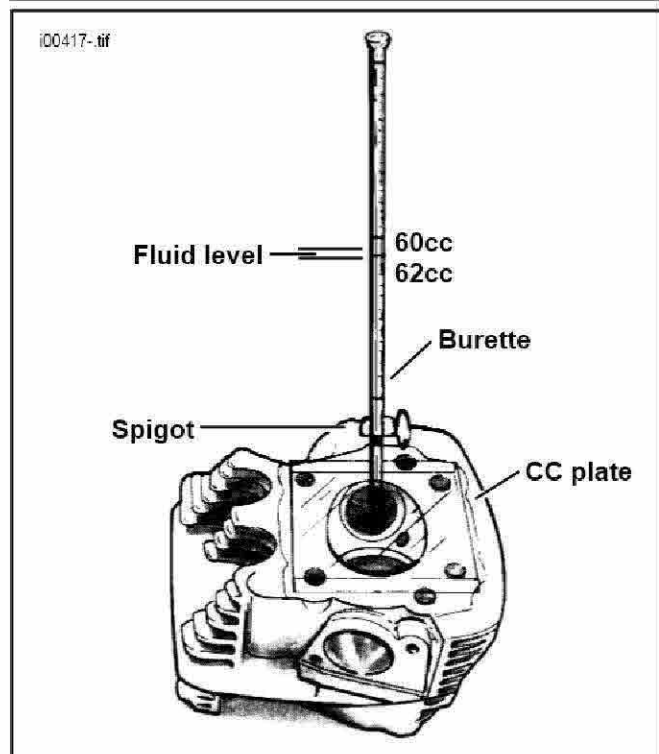

Figure 5. Checking Combustion Chamber Volume
10. See Figure 5. Press the plastic plate, grease side down, on the head and slide back and forth in short strokes to insure all surfaces are sealed around the entire perimeter.